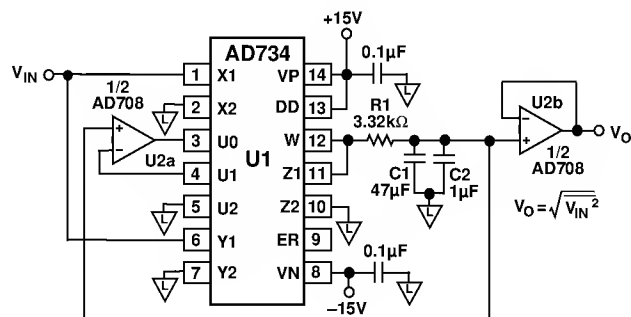

Figure 15. A 2-Chip, Wideband RMS-DC Converter
using its direct divide mode. Figure 15 shows the circuit.
In Figure 15's circuit, the AD 734 squares the input signal, and its output (V_{IN}^2) is averaged by a low-pass filter that consists of R1 and C1 and has a corner frequency of 1 Hz. Because of the implicit feedback loop, this value is both the output value, V_{RMS} , and the denominator in Equation (13). U2a and U2b, an AD 708 dual dc precision op amp, serve as unity-gain buffers, supplying both the output voltage and driving the U interface.